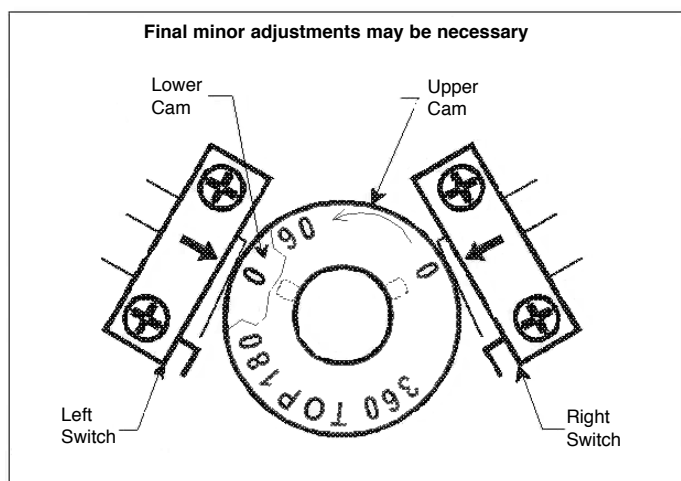

Figure 6. Cams.
5. Push down and rotate Actuator shaft so that the 0 degree mark lines up with arrow on switch housing. (Bottom cam should now also line up with the arrow. See figure 6.)
6. Reset cams, as defined earlier in Step 3 by loosening the locking nut 1/4 turn counter clockwise and line up specified marking on cams with arrows on switch housings (See figure 6.)